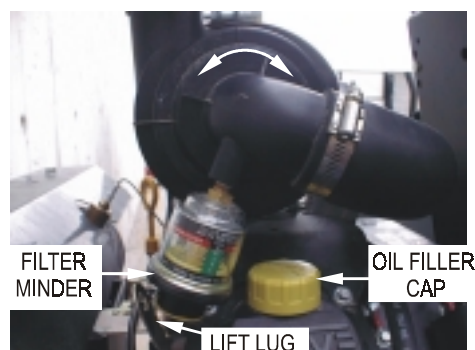

FIG. 3
- Rotate the air intake elbow as needed to create enough clearance between the filter minder and the oil filler cap to remove and replace the oil filler cap easily. See Figure 3.